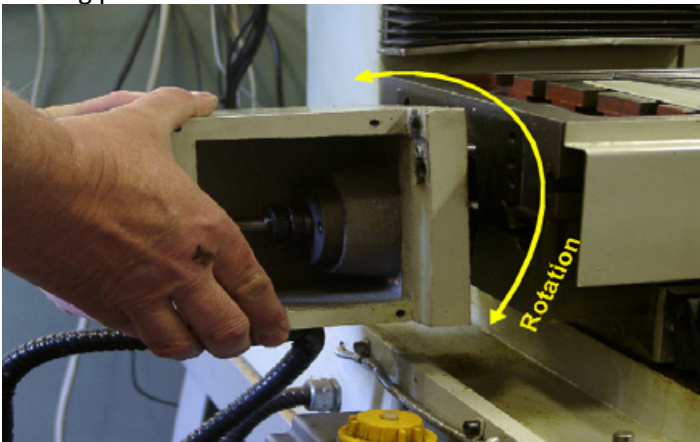

Figure 9.6 Feeling preload in bearings.
- (d) Remove the four cap screws holding the motor coupler box to the table (X-axis) or frame of the machine (Y- and Z-axis). Move the axis so the mounting box comes free of its pins. The screw and box are supported on the ballnut so take care not to apply forces that could bend the screw (figure 9.6).